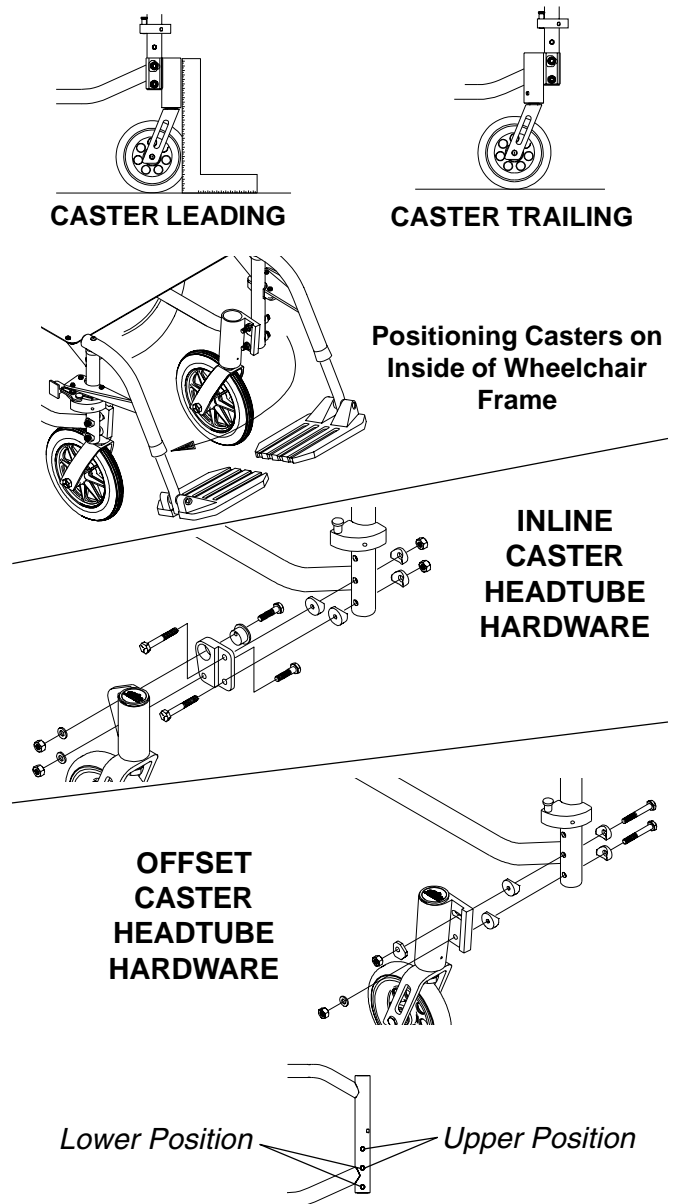

FIGURE 5 - CASTER HEADTUBE MOUNTING ADJUSTMENTS
CASTER HEADTUBE MOUNTING ADJUSTMENTS (FIGURE 5)
- Re-secure the caster headtube to the wheelchair with the existing hardware. Refer to **FIGURE 5** correct hardware orientation.